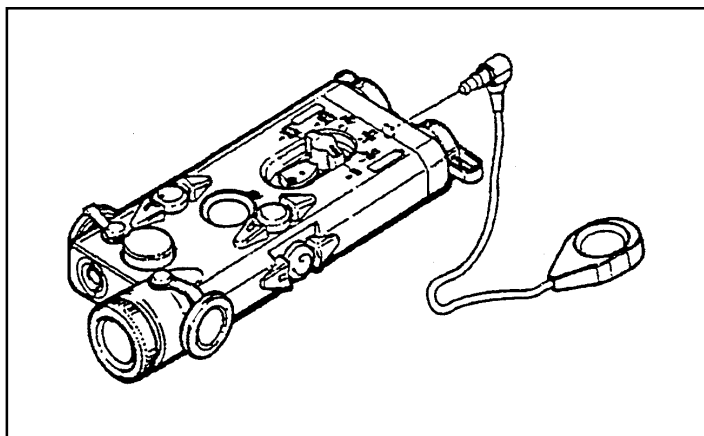

Figure G-14. Installation of the cable switch.
e. **Cable Switch.** The cable switch (Figure G-14) is used when the AN/PEQ-2A is mounted on a weapon. The switch plugs into the back of the AN/PEQ-2A assembly. Pressing the button or pad at the end of the cable switch causes the AN/PEQ-2A to turn on in the operational mode selected by the mode select switch. When the button is released, the AN/PEQ-2A turns off. If continuous operation of the AN/PEQ-2A is desired, pressing the cable switch twice in rapid succession latches the AN/PEQ-2A to ON. The AN/PEQ-2A remains on until the push button is pressed a third time. When the cable switch plug is installed in the AN/PEQ-2A, it automatically locks into place. To remove the switch, pull back on the plug sleeve and pull the plug out. DO NOT TRY TO REMOVE THE PLUG BY PULLING ON THE CABLE.